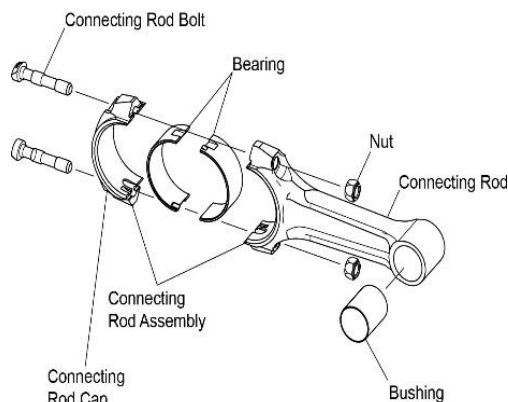

Figure 12
1. Remove and discard the two nuts (Figure 12) and the two bolts that attach the connecting rod cap to the connecting rod.